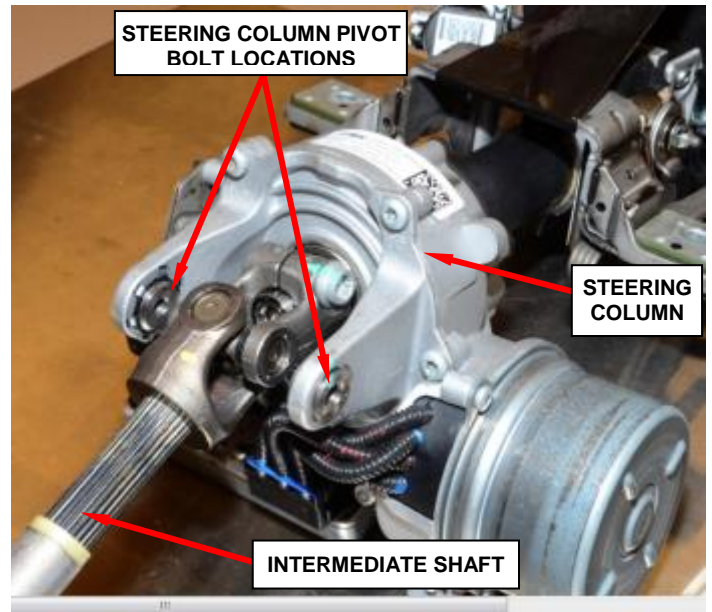

Figure 22 – Steering Column Pivot Bolts (Steering Column Removed for Photographic Purposes)
- k. Remove and save the two rear steering column pivot bolts (Figure 22).